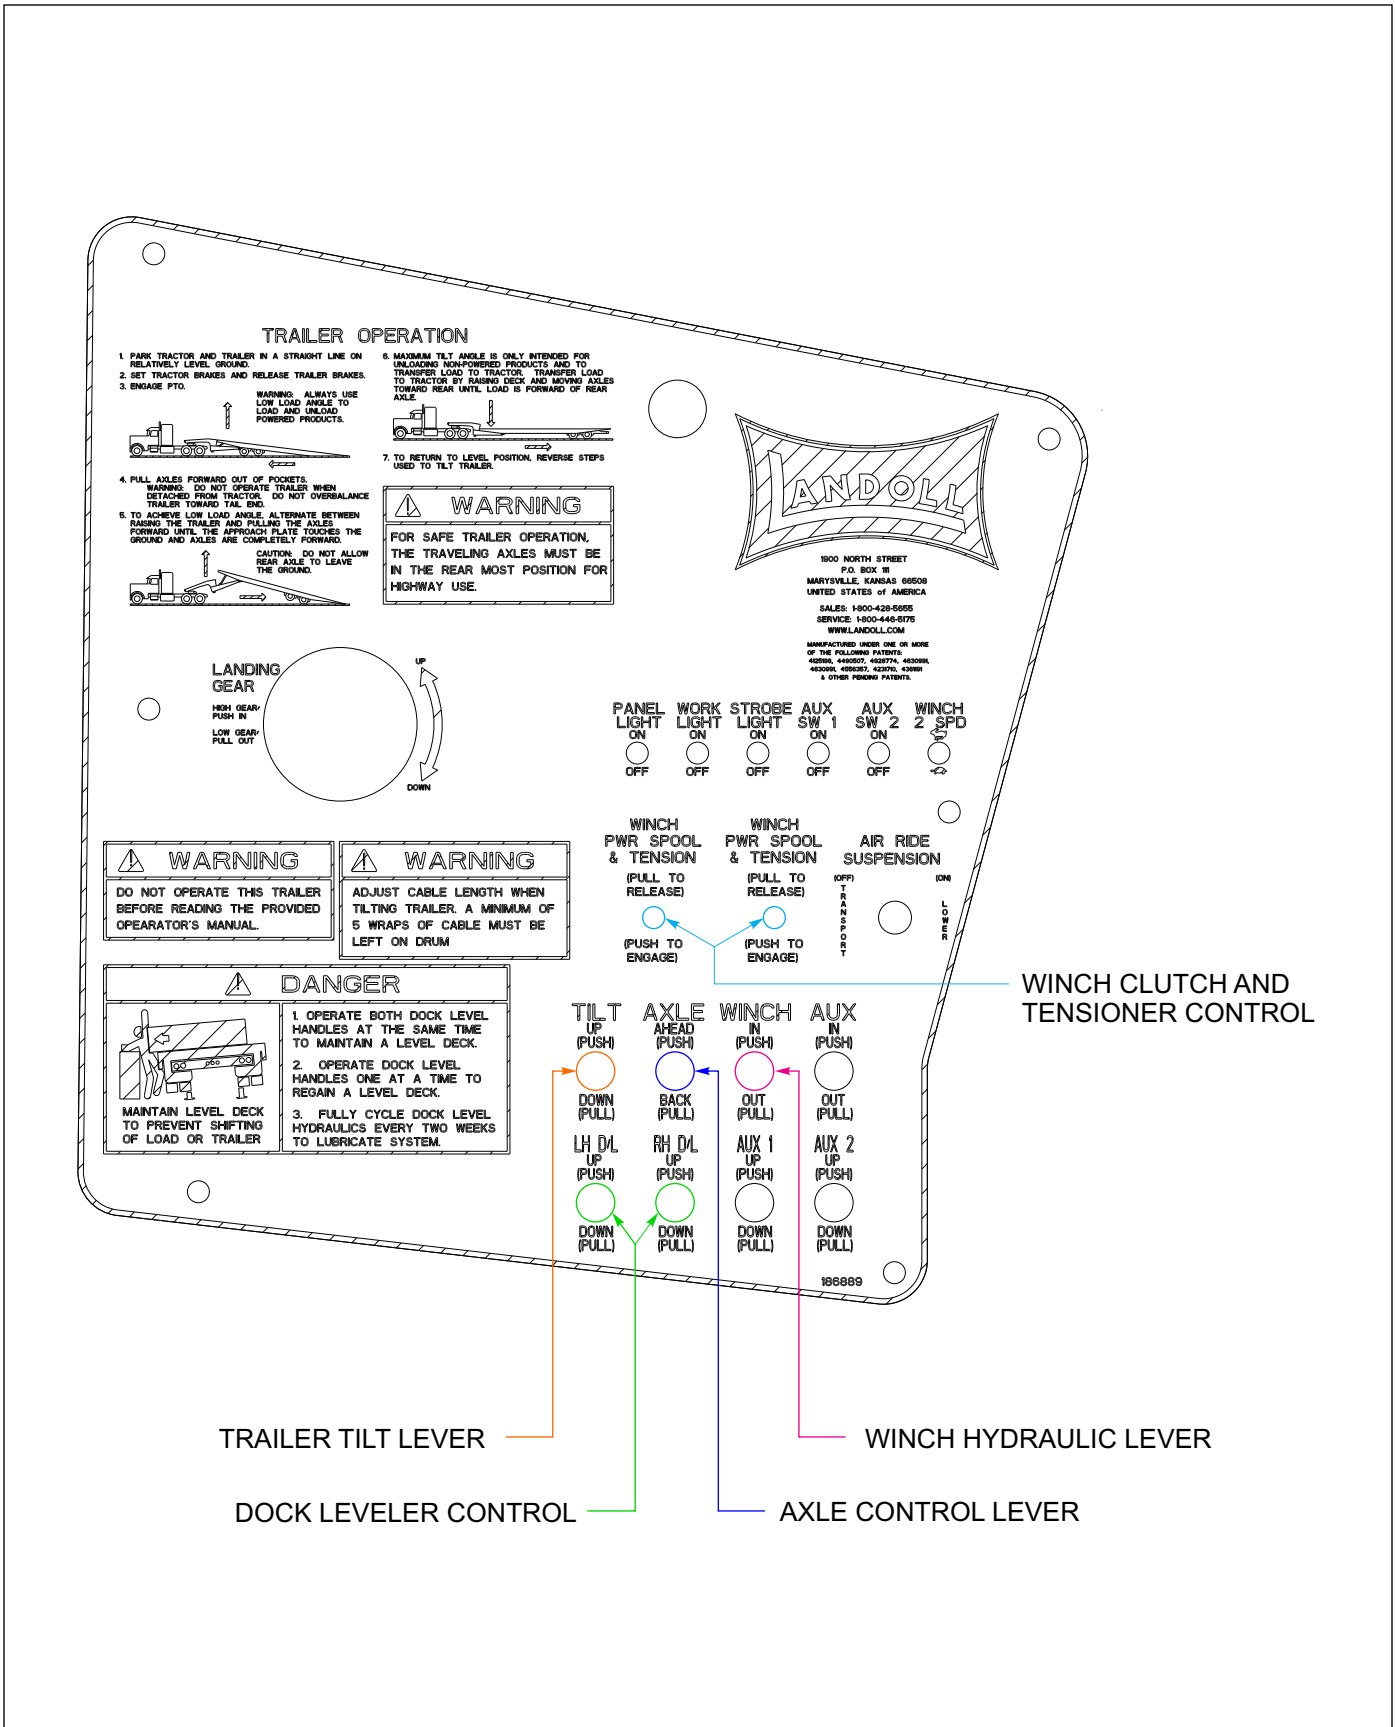

Figure 3-4: Hydraulic Controls
2. The Landing Gear lever is located in the hydraulic control panel (See Figure 3-4.) It has three positions:
The Trailer Tilt lever is located on the driver’s side of the upper deck (See Figure 3-4.) It is the front lever and has three positions:
The Axle Control lever (See Figure 3-4) is located on the control panel. It is the third lever with three positions: